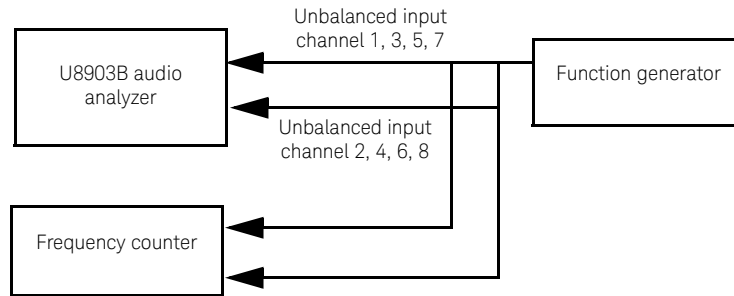

Figure 3-3 Function generator to frequency counter and U8903B connection for frequency accuracy verification
- 2 Connect the function generator outputs to the frequency counter input channel 1 and 2, and to the U8903B unbalanced input channel 1 and 2 as shown in **Figure 3-3**. Preset the U8903B, function generator, and frequency counter.